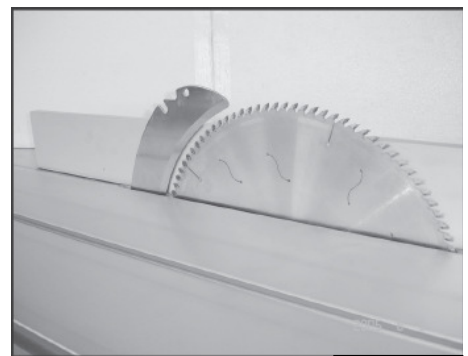

Fig. 27
3. Move the rip fence against the main blade (or scoring blade) (Fig. 27)
- Move the rip fence against the main blade (Fig. 27)